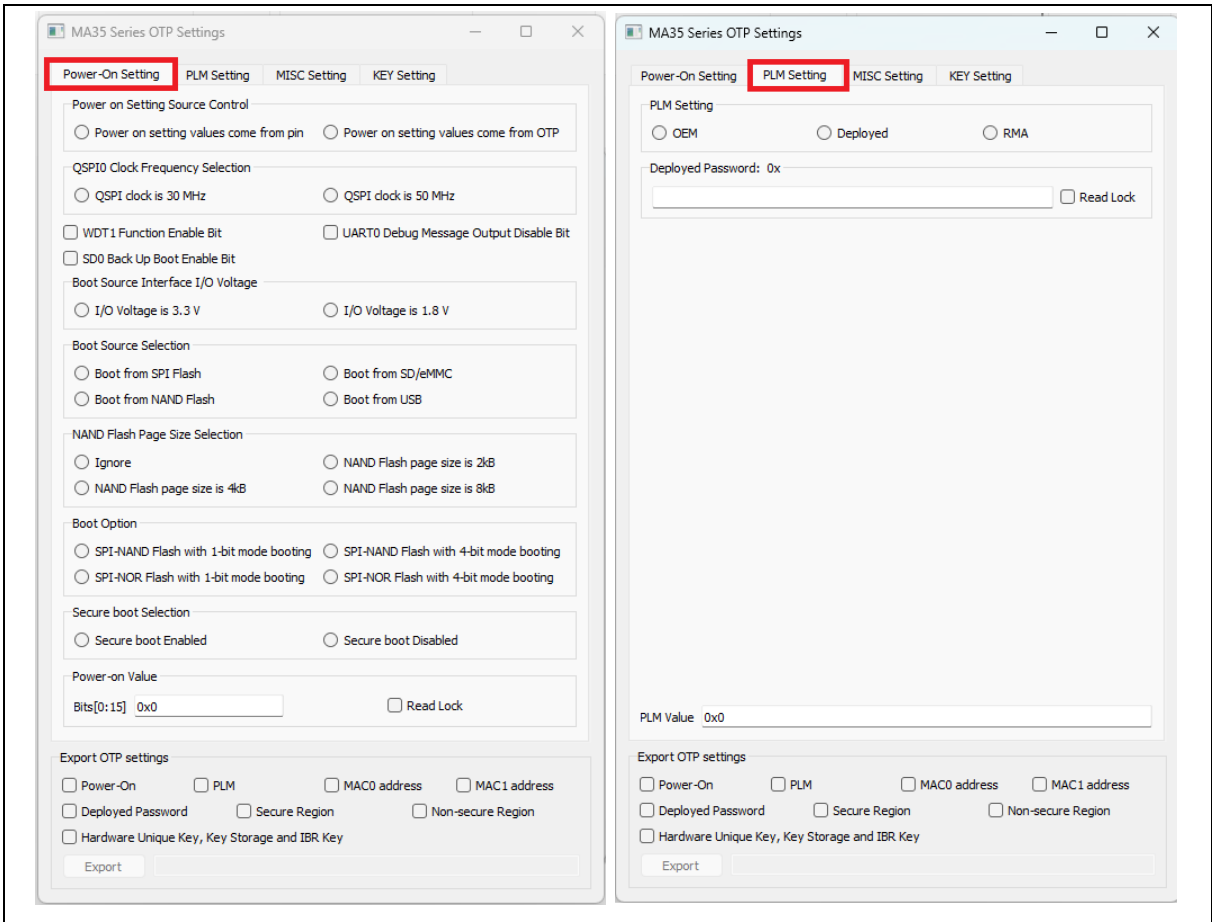
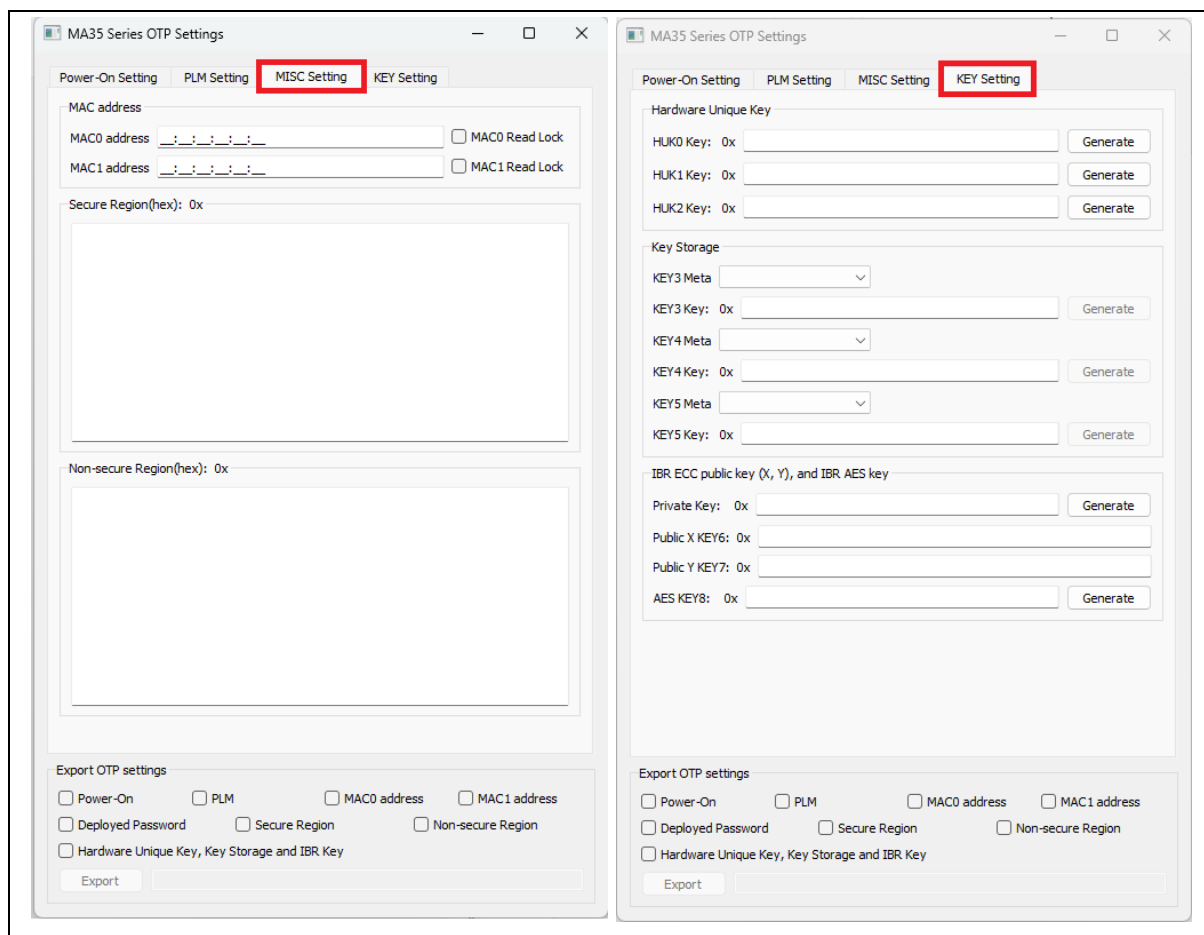

Figure 7-14 OTP Setting Page -1
Figure 7-15 OTP Setting Page - 2
2. Enable / Disable OTP setting. Figure 7-14 and Figure 7-15